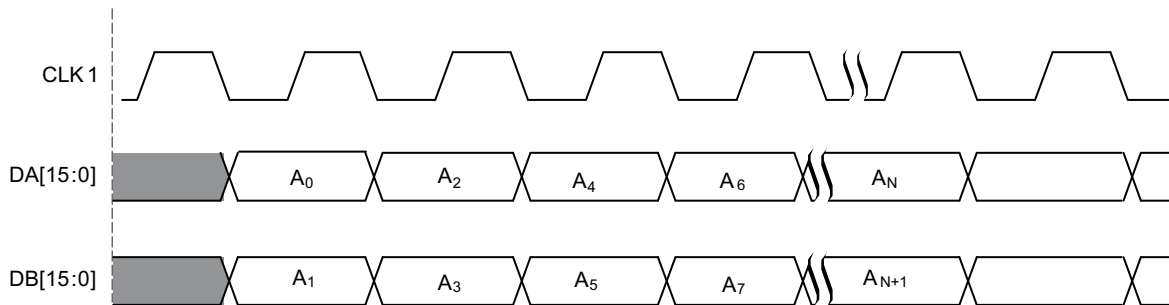

Figure 32. HALF RATE BUS MODE (Dual Clock Mode)
In HALF RATE BUS MODE, the user inputs data on both DA[15:0] and DB[15:0] ports at half rate and input logic merges both data streams into one DAC channel (A). This mode is selected by setting CONFIG1 `inset_mode[15:0] = '11'`. Refer to Figure 32.